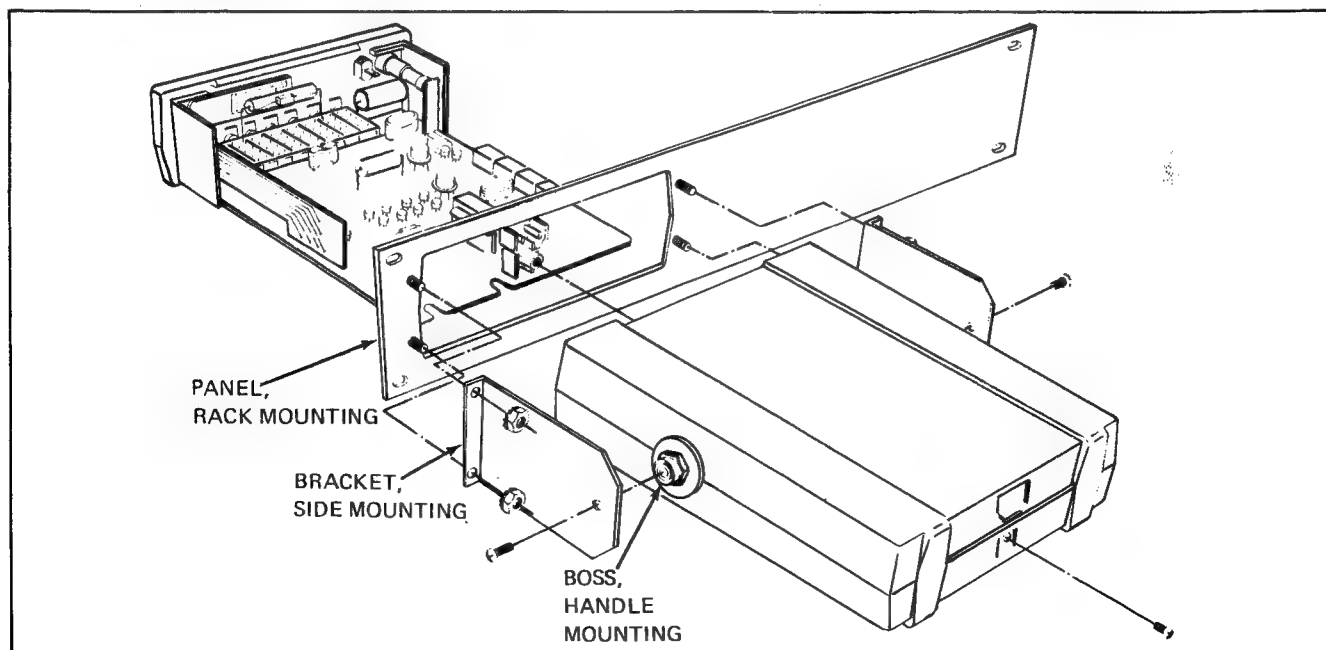

Figure 600-3. Rack Mounting Kit, Offset Mounting
3. Install the side mounting brackets, as shown in Figure 600-3, and secure them to the mounting panel using the nuts provided.